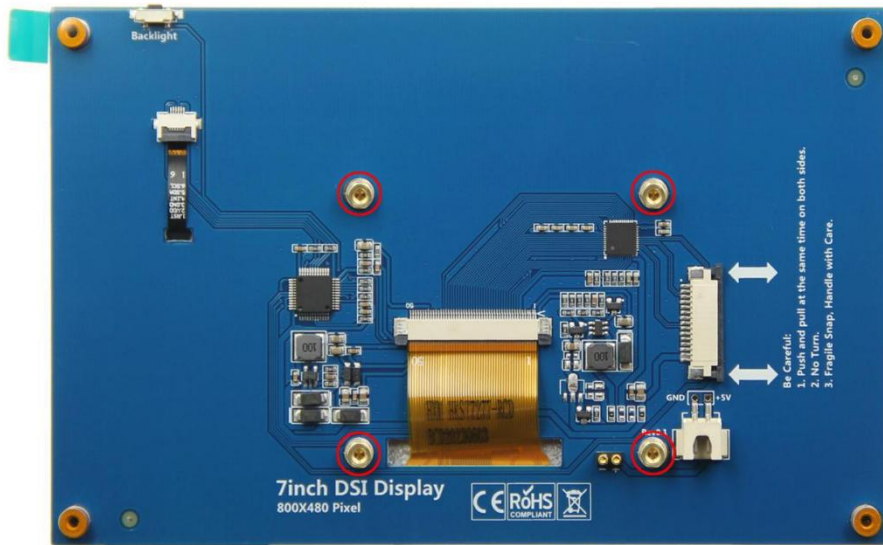
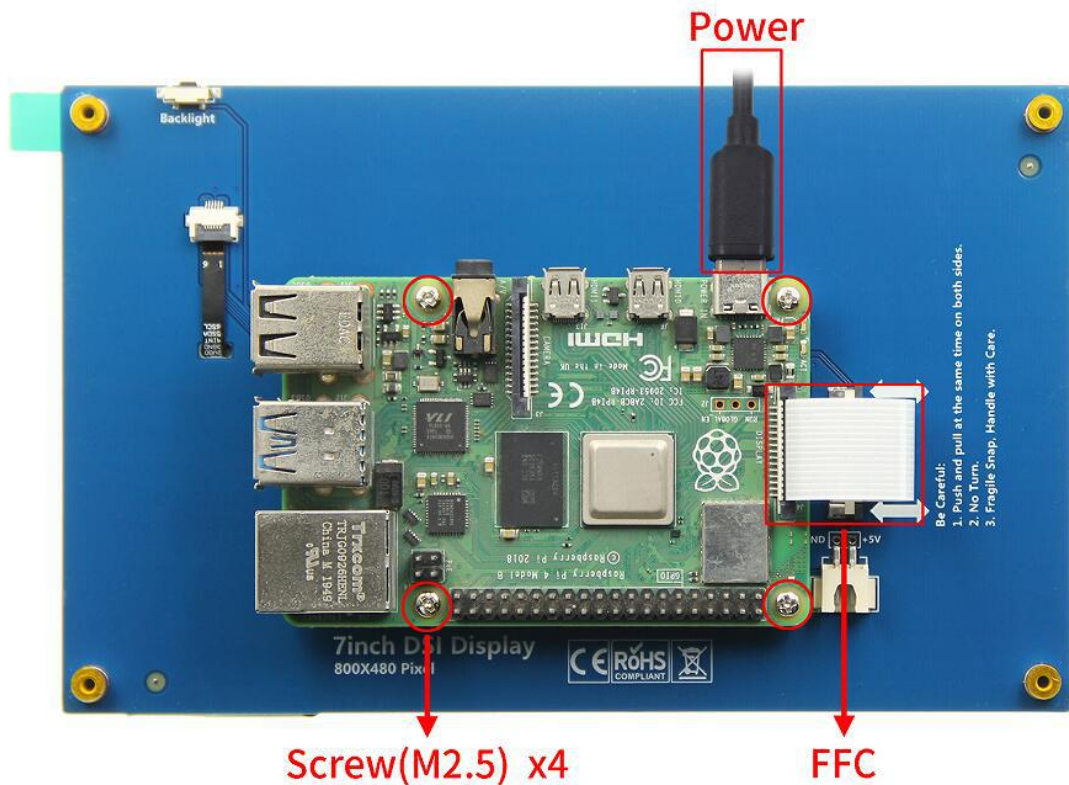

Figure 3. Installing copper pillars
Figure 5 Connecting Raspberry Pi
- (1) Install Raspberry Pi OS according to the official tutorial steps, and put the Micro SD card into the Raspberry Pi.
- (2) Fix the Raspberry Pi to the copper pillar with 4 screws (M2.5), then connect the FFC flexible ribbon cable to the screen (as shown in Figures 3 and 4), connect it to the Raspberry Pi MIPI DSI interface (as shown in Figure 5), and finally connect the Raspberry Pi to the power cord;